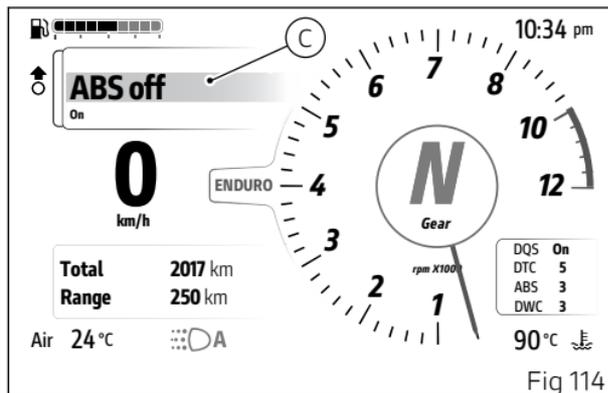

Fig 114
The relative window (C, Fig 114) is displayed. The current ABS On status is displayed at the bottom of the window and ABS Off (D, Fig 115) is displayed in the middle of the window. When the ENTER button (3) is pressed, Wait... is displayed for a few seconds, then the ABS system is deactivated with Off displayed at the bottom and ABS On (E, Fig 115) shown in the middle of the window. (Fig 115)